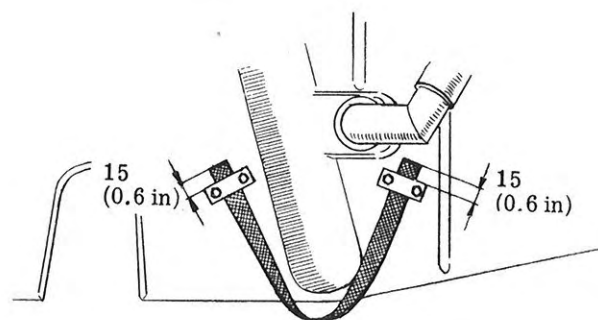

Fig. 17. Installation of rear axle stop straps
3. If stop strap has been removed, attach it at front end. Note that the end of the strap must lie 15 mm. (0.6 in.) outside the attachment, see Fig. 17.
5. Attach the stop strap at the rear end. Note that the end of the strap must lie outside the attachment, see Fig. 17.